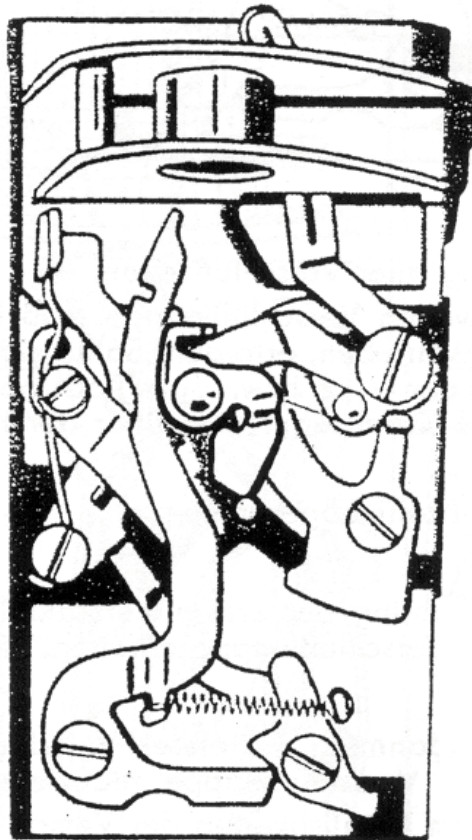

Fig. 3
- h) Holding the first shutter flap with a finger, fire the shutter and let the first shutter flap run slowly, the release pin for the first shutter flap (see Fig.3) must now run towards the point on the secondary lever on the exposure time lever. If this does not occur, the Anschlag [?tab/stop?] on the secondary lever must be adjusted.